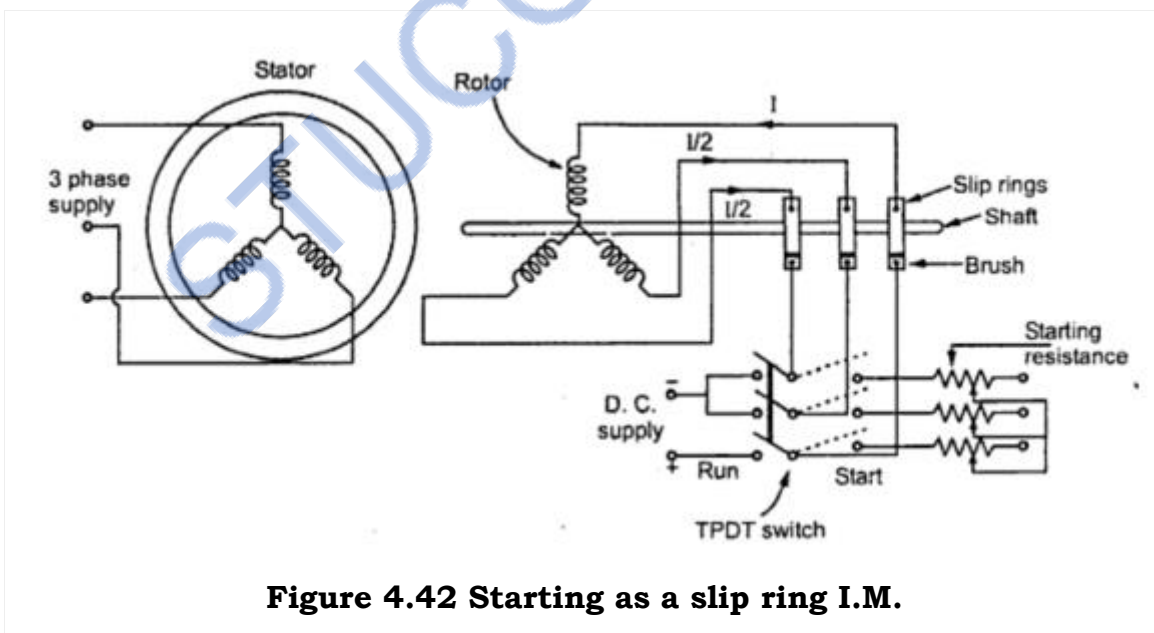

Figure 4.42 Starting as a slip ring I.M.
- The synchronous motor started by this method is called a slip ring induction motor is shown in the Fig 4.42.
- It can be observed from the Fig. 4.42 that the same three phase rotor winding acts as a normal rotor winding by shorting two of the phases.